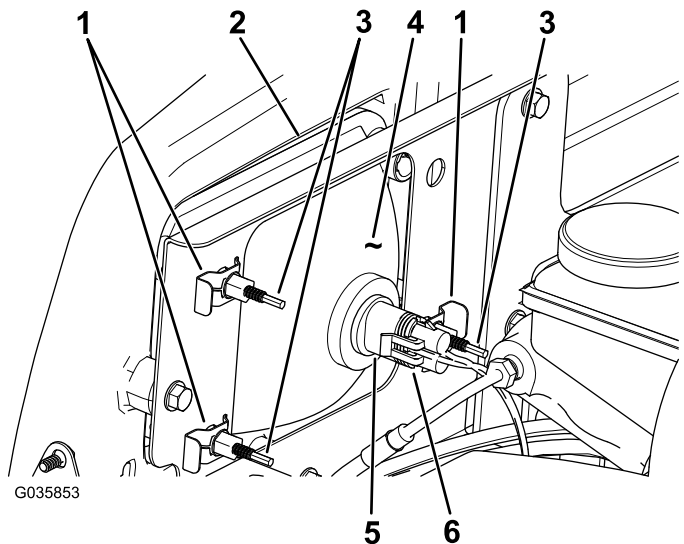

Figure 42
3. Disconnect the electrical connector for the harness from the connector of the lamp assembly (Figure 42).
4. Remove the speed clips that secure the headlight to the headlight bracket (Figure 42).
5. Remove the headlight assembly by moving it forward through the opening in the front bumper (Figure 42).
6. Install the new headlight through the opening in the bumper (Figure 42).
8. Connect the electrical connector for the harness to the connector of the lamp assembly (Figure 42).
2. At the back of the headlight assembly, rotate adjustment screws (Figure 42) to pivot the headlight assembly and align the position of the cast beam.